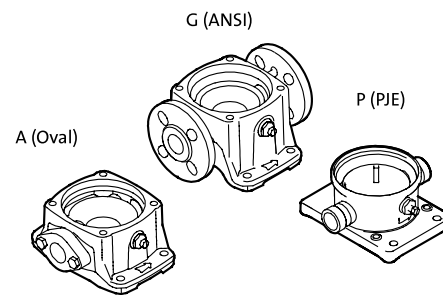

Fig. 23 Pump connections
- Oval flange (NPT) - fig. 23
- ANSI flange - fig. 23
- PJE coupling - fig. 23